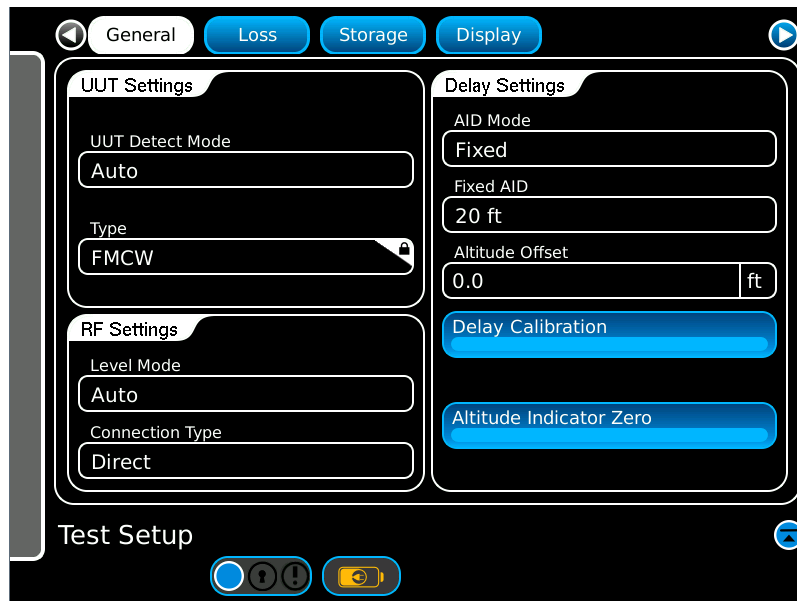

**Figure 1-3 ALT-8000/8015 Top Panel**
4. Connect the cable with the yellow ends (P/N 88511) to the UUT:RX (Yellow) connector on the top panel of the ALT-8000/8015. See Figure 1-3.
5. Connect the cable with the red ends (P/N 89527) to the UUT:TX (Red) connector of the ALT-8000/8015. See Figure 1-3.